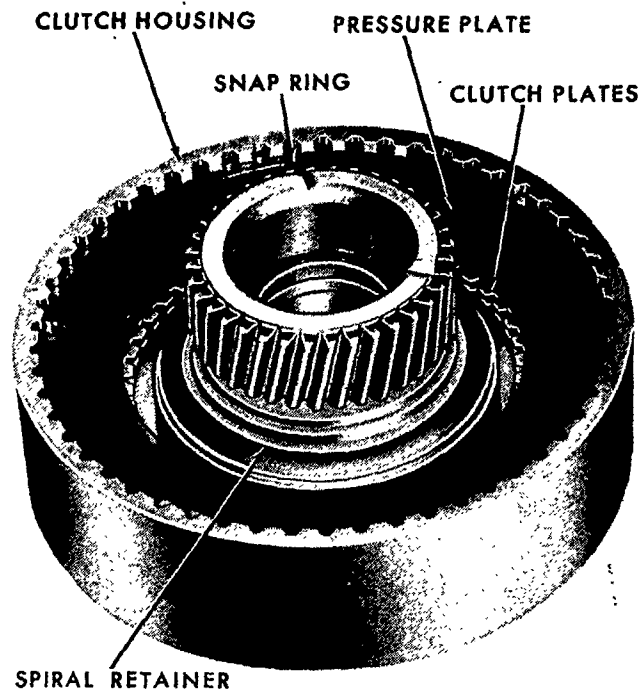

Figure 111
1. Remove the large snap ring from the inside of the clutch housing, Figure 111, and lift out the pressure plate and the four clutch plates.